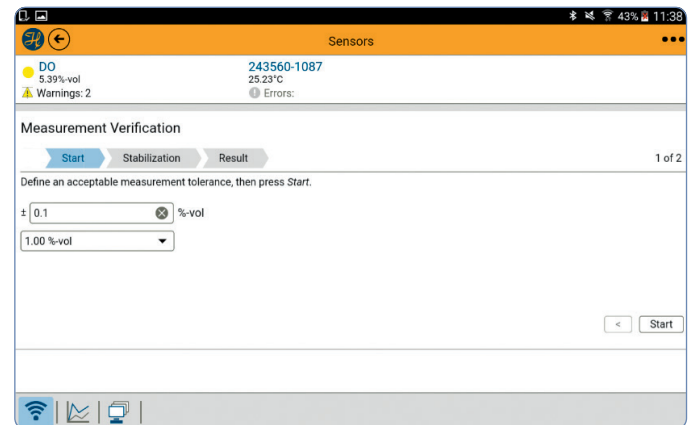

Figure 14: ArcAir Verification Wizard
- 1) Install the sensor into the calibration station and connected the 1%-vol calibration gas (Figure 14).